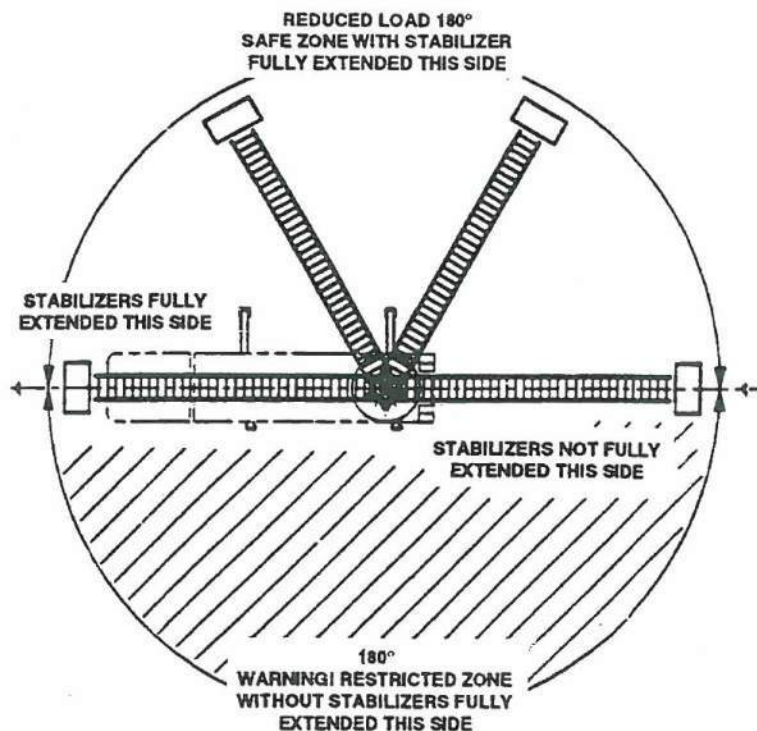

Figure 9. Horizontal Beams Extension
3. Extend stabilizer beams and jacks (figure 9).